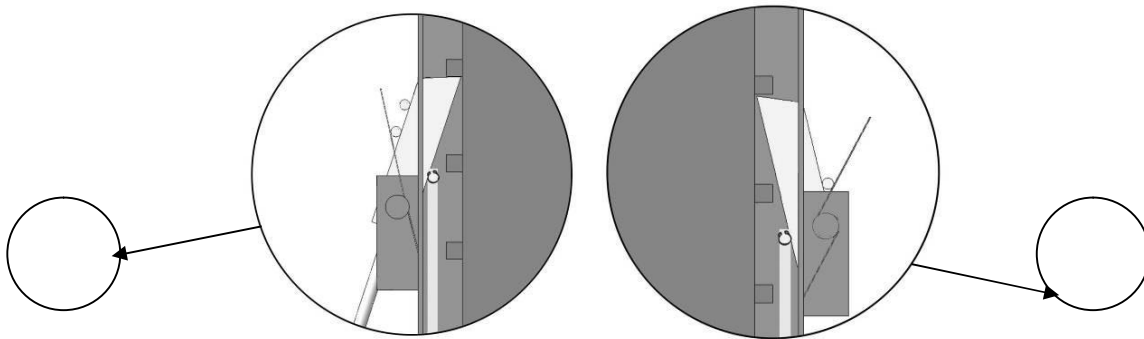

Fig. 17
- H. Lift the carriages up by hand and make them be locked at the same level (See Fig. 17).